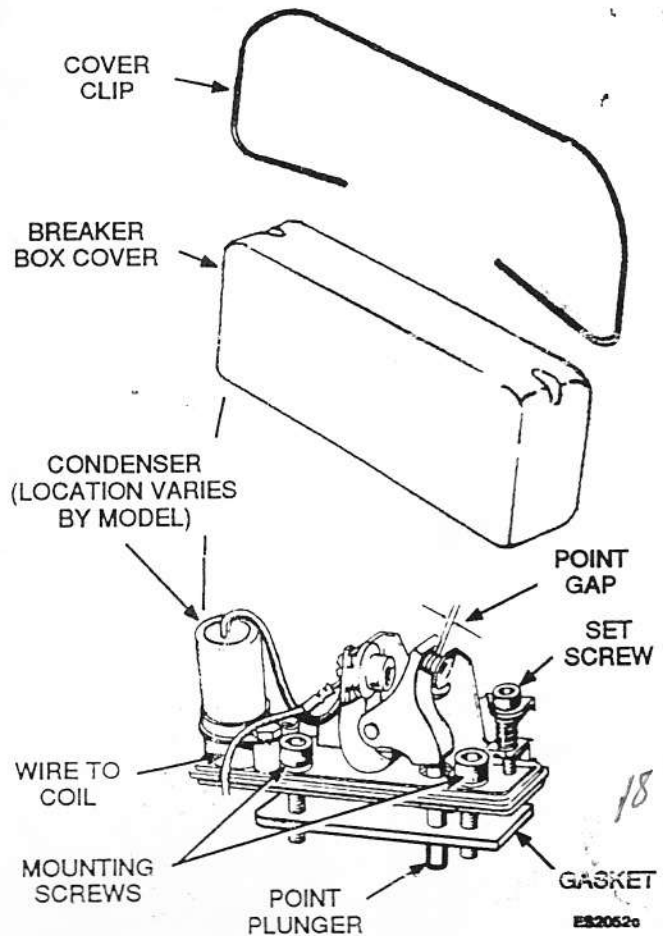

FIGURE 1. BREAKER POINT ASSEMBLY
3. Remove the breaker box cover clip and lift off the breaker box cover. See Figure 1.
7. Connect an ohmmeter or a continuity test lamp set across the ignition breaker points. Touch one test prod to the coil lead terminal (see Figure 1). Touch the other test prod to a good ground on the engine.